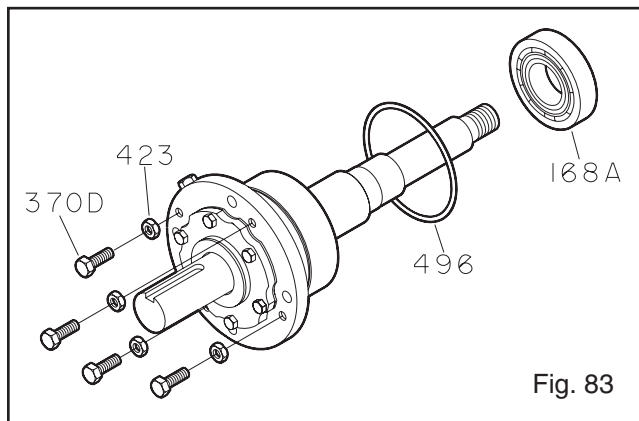

Fig. 83
- Remove clamp screws (370C). Back off jam nuts (423). Tighten jack screws (370D) evenly, this will start bearing housing (134) out of bearing frame (228A).
- Remove jack screws (370D) with nuts (423) (Fig. 83).
- Remove bearing housing O-ring (496).